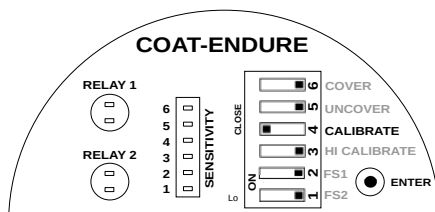

Figure 9: Calibration Switch Position
- To start the calibration process, set the CALIBRATE switch to CLOSE (Opposite of OPEN in a DIP switch) position as shown in Figure 9.